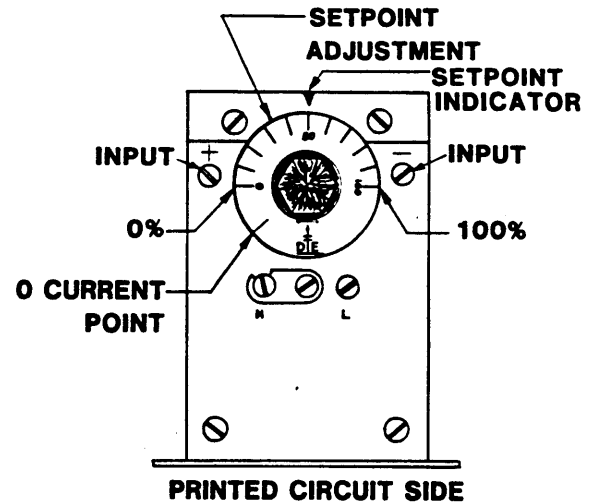

Figure 4-2
B. With the unit disconnected from the loop, but with ac power still connected the relay should pull in and out ("click") as you adjust the setpoint dial about the zero current point. See Figure 4-2.